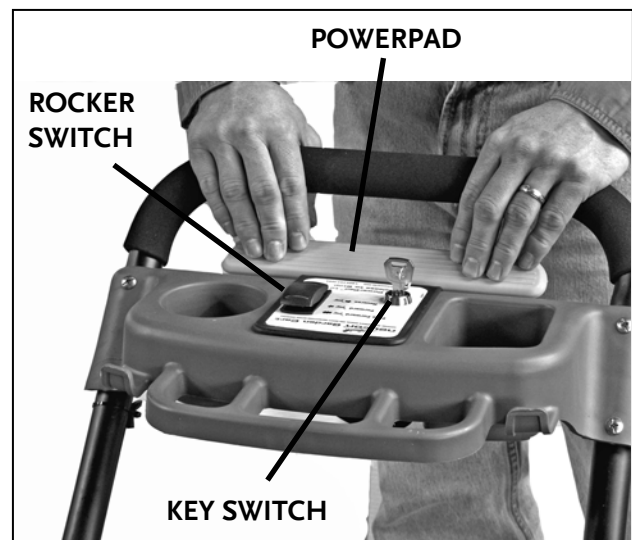

Figure 12. Moving forward.
To utilize your Cart rotate the Key Switch to the on position (**Figure 12**).
1. Set the Rocker Switch to Fast Forward, it's front switch position (**Figure 12**).
1. Set the Rocker Switch to Forward, it's the middle switch position (**Figure 12**).